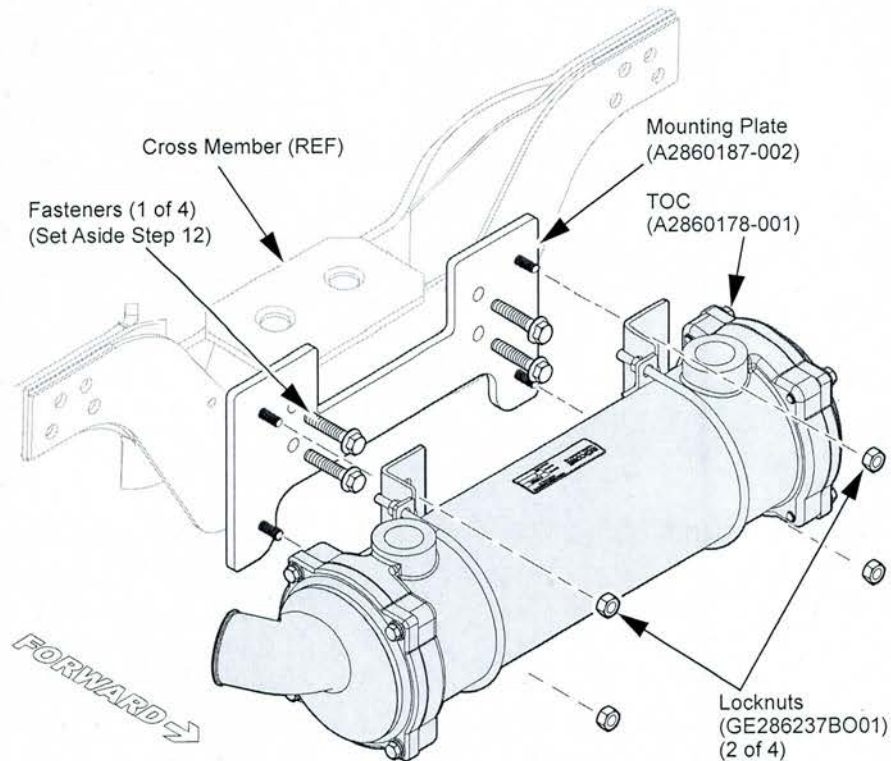

**Figure 6**
12. Remove the 4 fasteners securing the TOC to the cross member and set aside for reinstallation (see Figure 6).